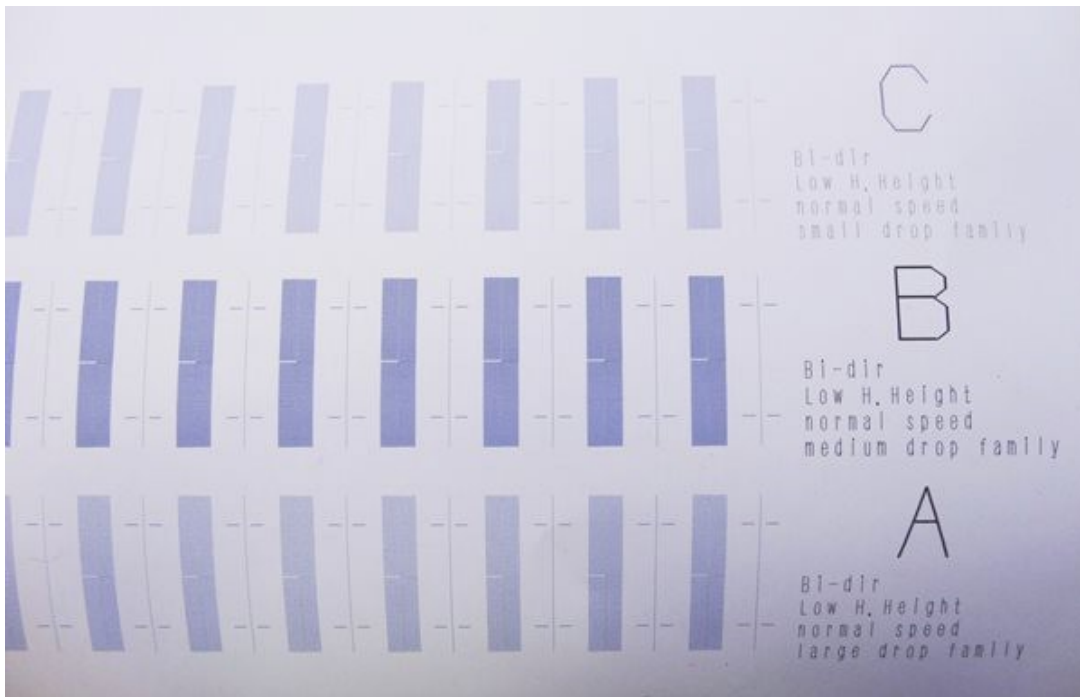

Figure 80
67. A set of patterns will begin printing. Check pattern A to pattern C for any shifting. See Figure 80.